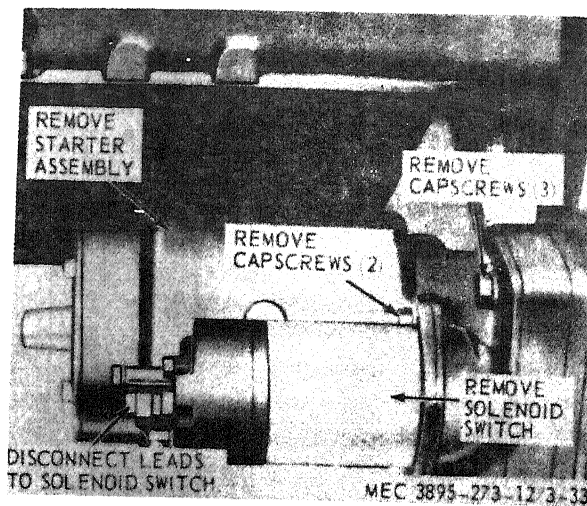

Figure 3-30. Starter and solenoid, removal and installation.
a. *Removal.* Remove the starter and solenoid as instructed on figure 3-30.
- (1) Clean all parts with an approved cleaning solvent.
- (2) Inspect the starter for wear, defects, and damage. Replace a worn, defective, or damaged starter.
- (3) Inspect the solenoid switch for defects and damage. Check for continuity between terminals with switch in engaged position. Replace a defective solenoid switch.
c. *Installation.* Install the starter and solenoid in reverse of the instructions on figure 3-30.